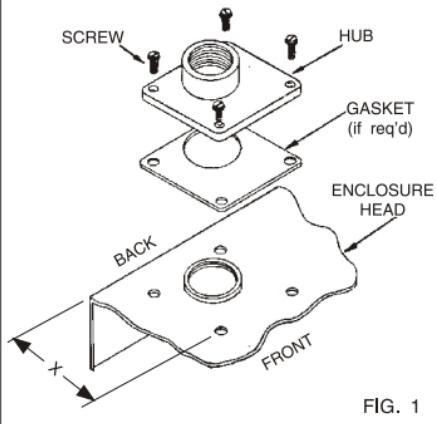

FIG. 1
3. If "X" dimension in Fig. 1 is 3 9/16" use two (2) of the four (4) screws furnished with hub in the back mounting positions. Use the two (2) screws furnished in poly bag with enclosure in the front mounting positions to attach hub to head. If "X" is less than 3 9/16" use the four (4) screws furnished with hub to attach hub to head. Short screws not required on side-hinged door.